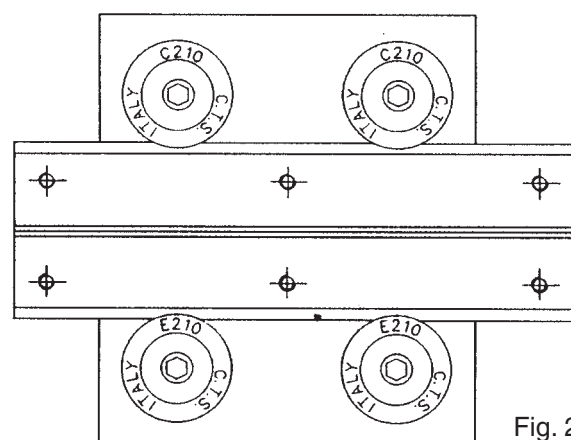

Fig. 2
- 4) Adjust and tighten the two eccentric wheels so as to eliminate play, giving them the correct preloading (fig. 2).